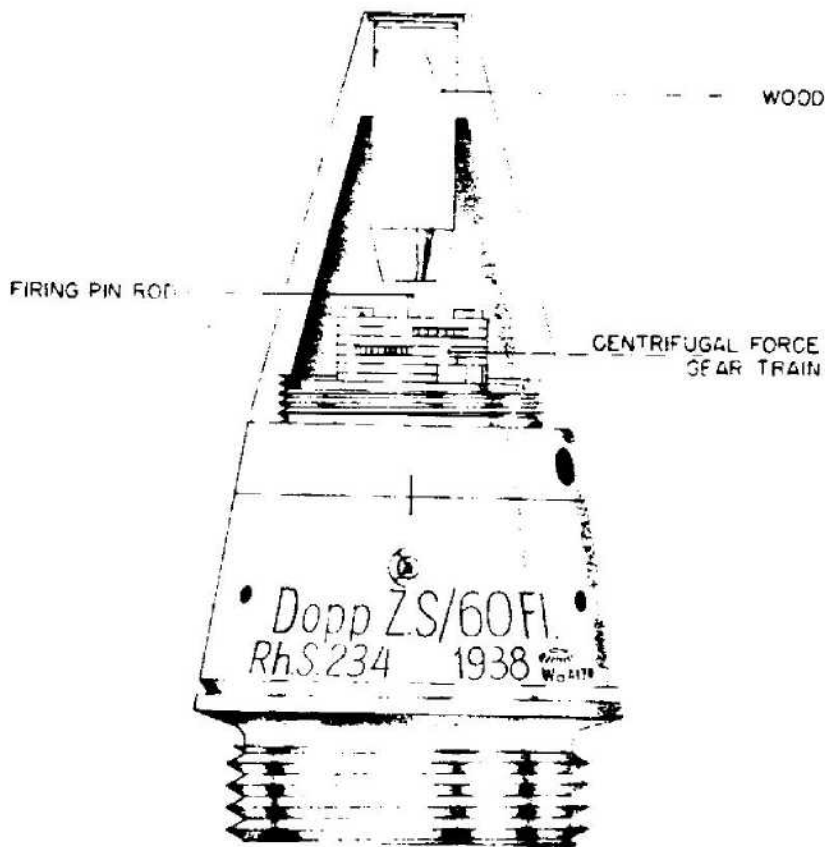

Figure 596—Dopp. Z. S/60 Fl.
**EMPLOYMENT:** Mechanical time and/or impact nose fuse used in German 8.8-cm and 10.5-cm H. E. antiaircraft shells. (See fig. 596.)